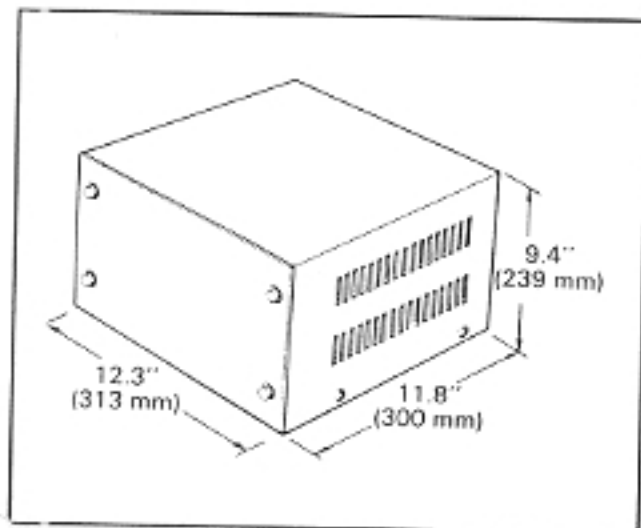

FIGURE 1—MKSU (Dimensions)
02.01 Designed for table-top or wall mounting, the **Strata VI** MKSU is housed in a single metal cabinet (Figure 1) with the following dimensions: